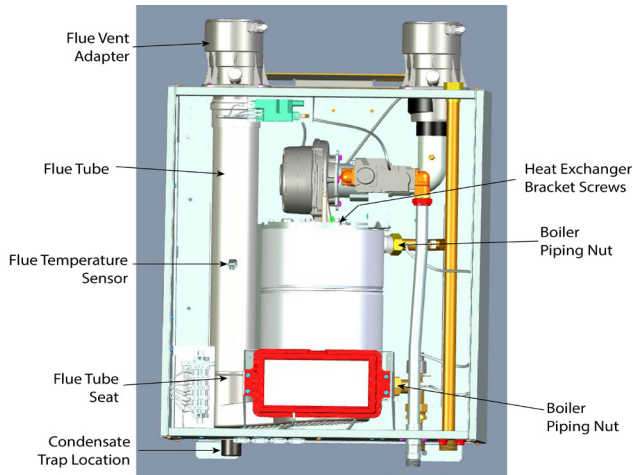
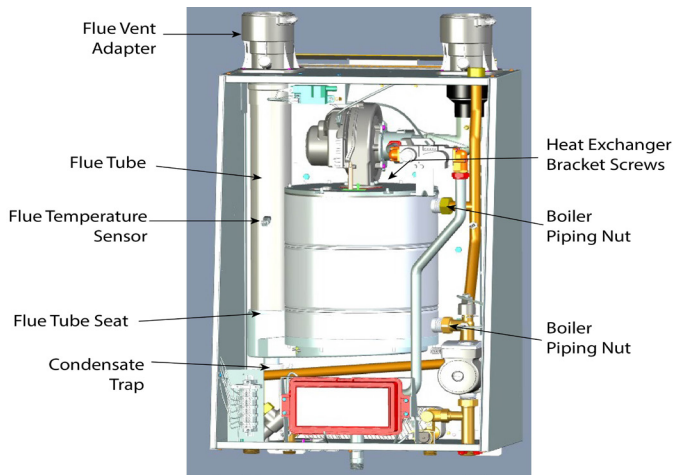

Fig. 5: Instinct 110
Fig. 9: Instinct 199 Combi
1. Loosen the two nuts securing the boiler piping to the heat exchanger. See Fig. 5 - Fig. 9.